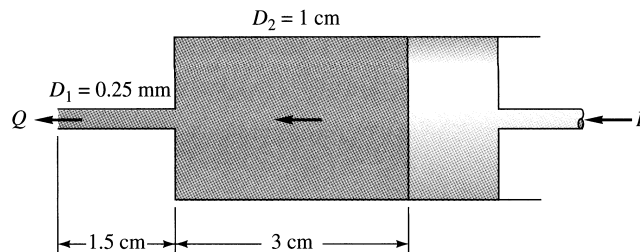

Fig. P6.22
6.22 A steady push on the piston in Fig. P6.22 causes a flow rate $Q = 0.15 \text{ cm}^3/\text{s}$ through the needle. The fluid has $\rho = 900 \text{ kg/m}^3$ and $\mu = 0.002 \text{ kg/(m}\cdot\text{s)}$. What force F is required to maintain the flow?